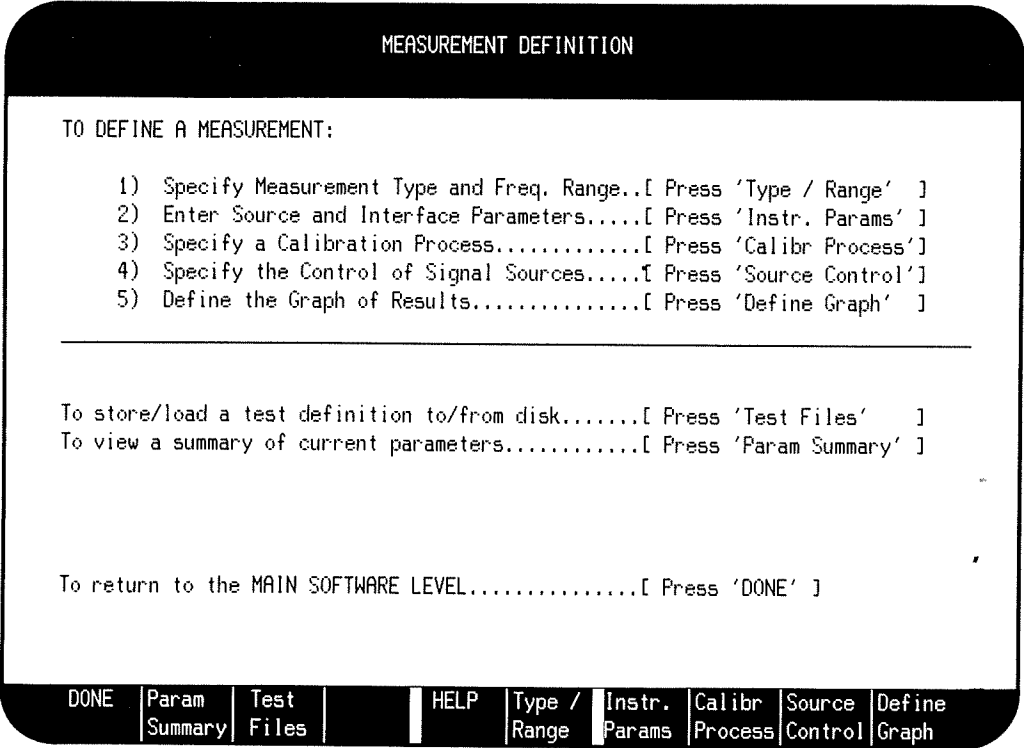

Figure 3-7. Measurement Definition Menu
- 5. On the HP 3048A press the **Define Msrmnt** softkey to obtain the Measurement Definition menu. Refer to figure 3-7.